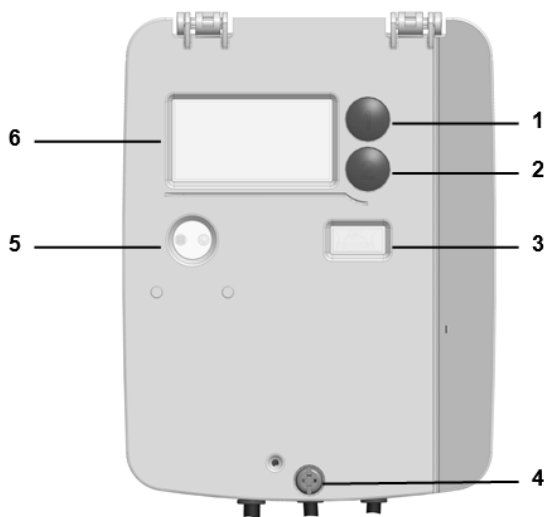

Figure 1: Meter, closed
- Screw on the device cover (Fig.1, No. 4): min. 1 Nm